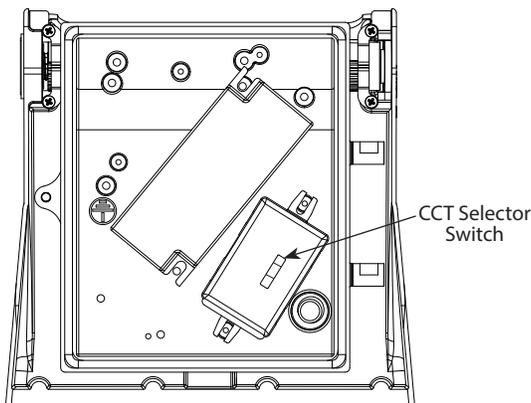

Fig: 12
2. Lift **Housing** cover and locate **CCT Selector Switch** in **Housing** as shown in Fig. 12.